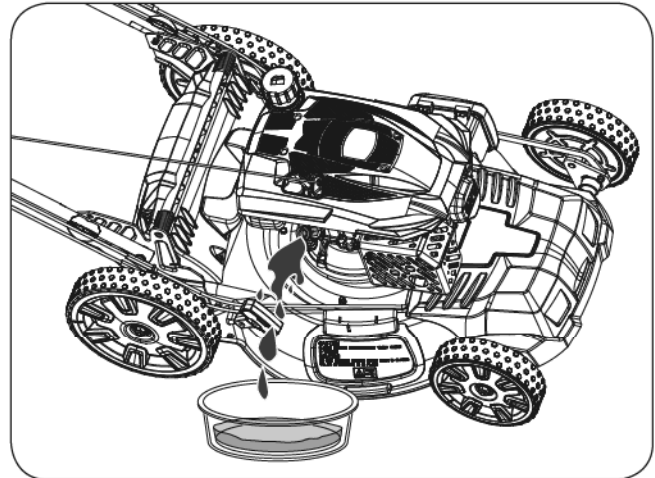

**Figure 18**
3. Remove the dipstick by rotating the cap counterclockwise and pulling it out. (See **Figure 18**)
10. Read the oil level on the dipstick. (See **Figure 18**)